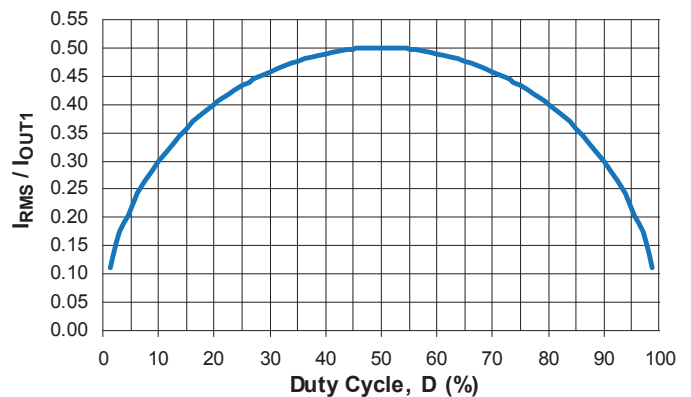

Figure 9: Normalized Input Capacitor Ripple versus Duty Cycle
Figure 9 shows the normalized input capacitor rms current versus duty cycle. To use this graph, simply find the operational duty cycle (D) on the x-axis and determine the input/output current multiplier on the y-axis. For example, at a 20% duty cycle, the input/output current multiplier is 0.40. Therefore, if the regulator is delivering 2.0 A of steady-state load current, the input capacitor(s) must support 0.40×2.0 A or 0.8 Arms.